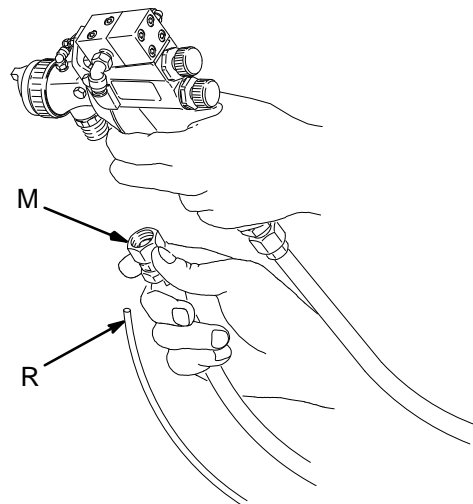

Fig. 23
- A. After relieving pressure, disconnect the activator and adhesive supply lines (M and R) from the gun. See Fig. 23.